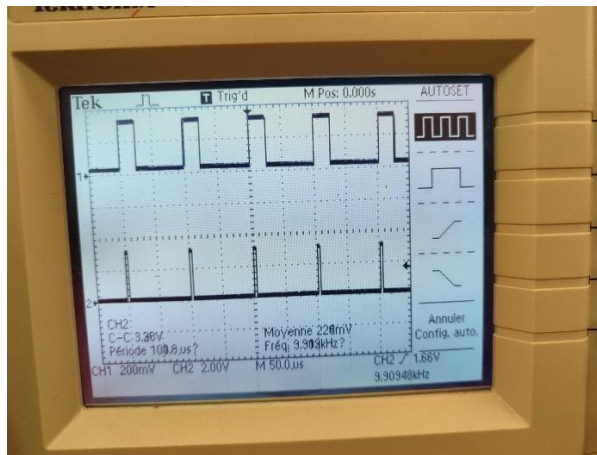

Figure 2: PWM with interrupt signals.
- Verify that the ISR is exactly synchronized with the PWM signal: It is shown in Figure 2 that the interrupt signal at 10kHz.